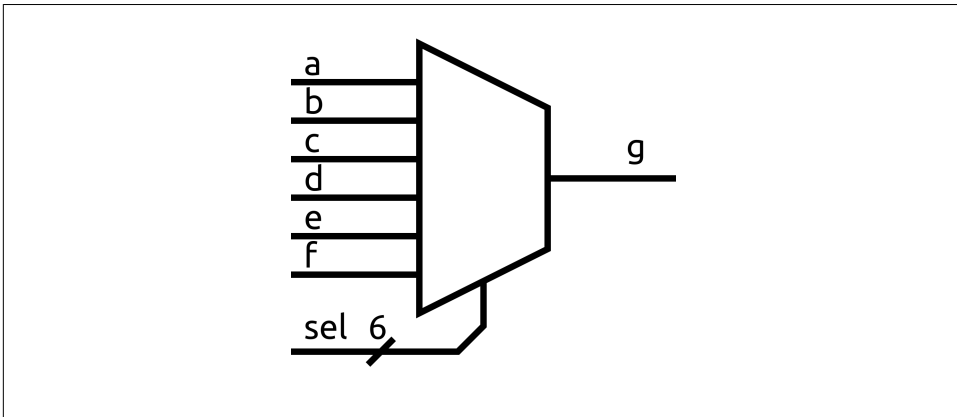

Figure 3-4. Schematic symbol for multiplexers
*Multiplexers* are circuits that can select one of many values based on the *selection* input. In Figure 3-4, the multiplexer will select one of the six inputs, a through f, and output it on g. The sel input in this case needs to be one-hot.